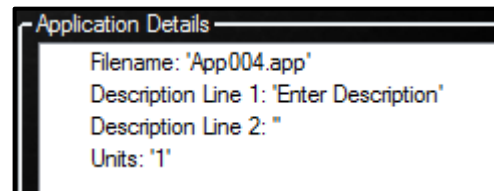

Figure 8.7-5: Application Details
4. The Application will open in Application Details (Figure 8.7-5).